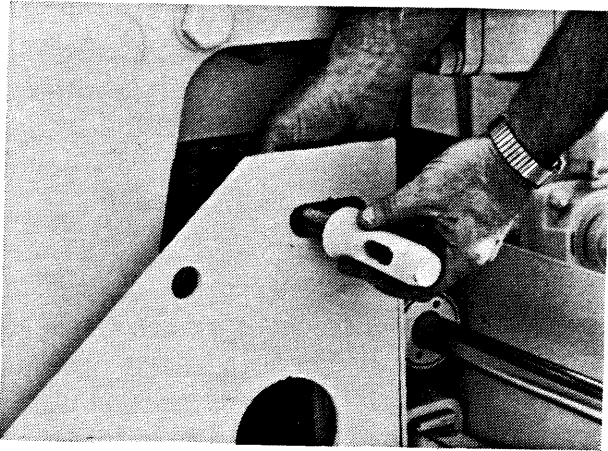

Figure 15
- (2) Install mounting pegs in the right-hand side of the screed. (Figure 15) Two tapered pegs go in the top and bottom rear holes. The straight peg goes in the bottom front hole. Leave nuts loose enough so pegs can slide back and forth in the slots.